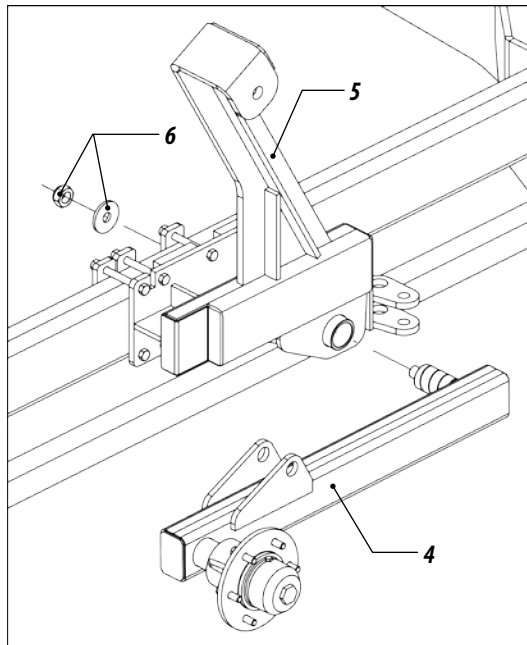

Figure 13
28- Insert the rod (4) in the bracket (5) fastening it with washer and nut (6), figure 13.